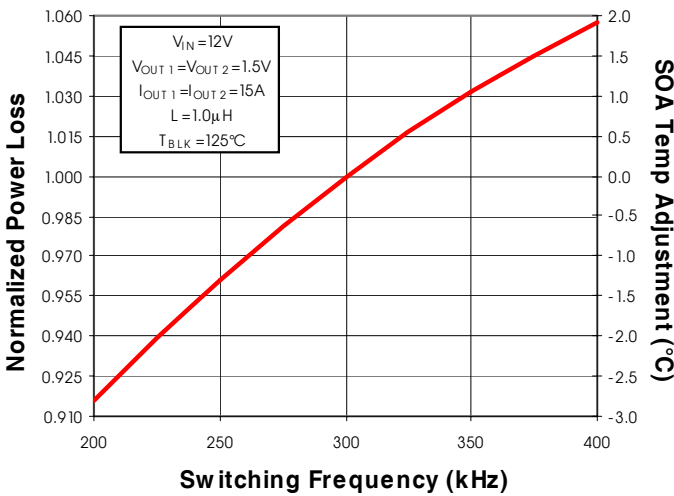

Fig. 6: Normalized Power Loss vs. Frequency
(Fig. 6) Normalized power loss for frequency \approx 1.0
- (Fig. 6) Normalized power loss for frequency ≈ 1.0
- (Fig. 6) Normalized SOA Temperature for frequency $\approx 0^{\circ}C$